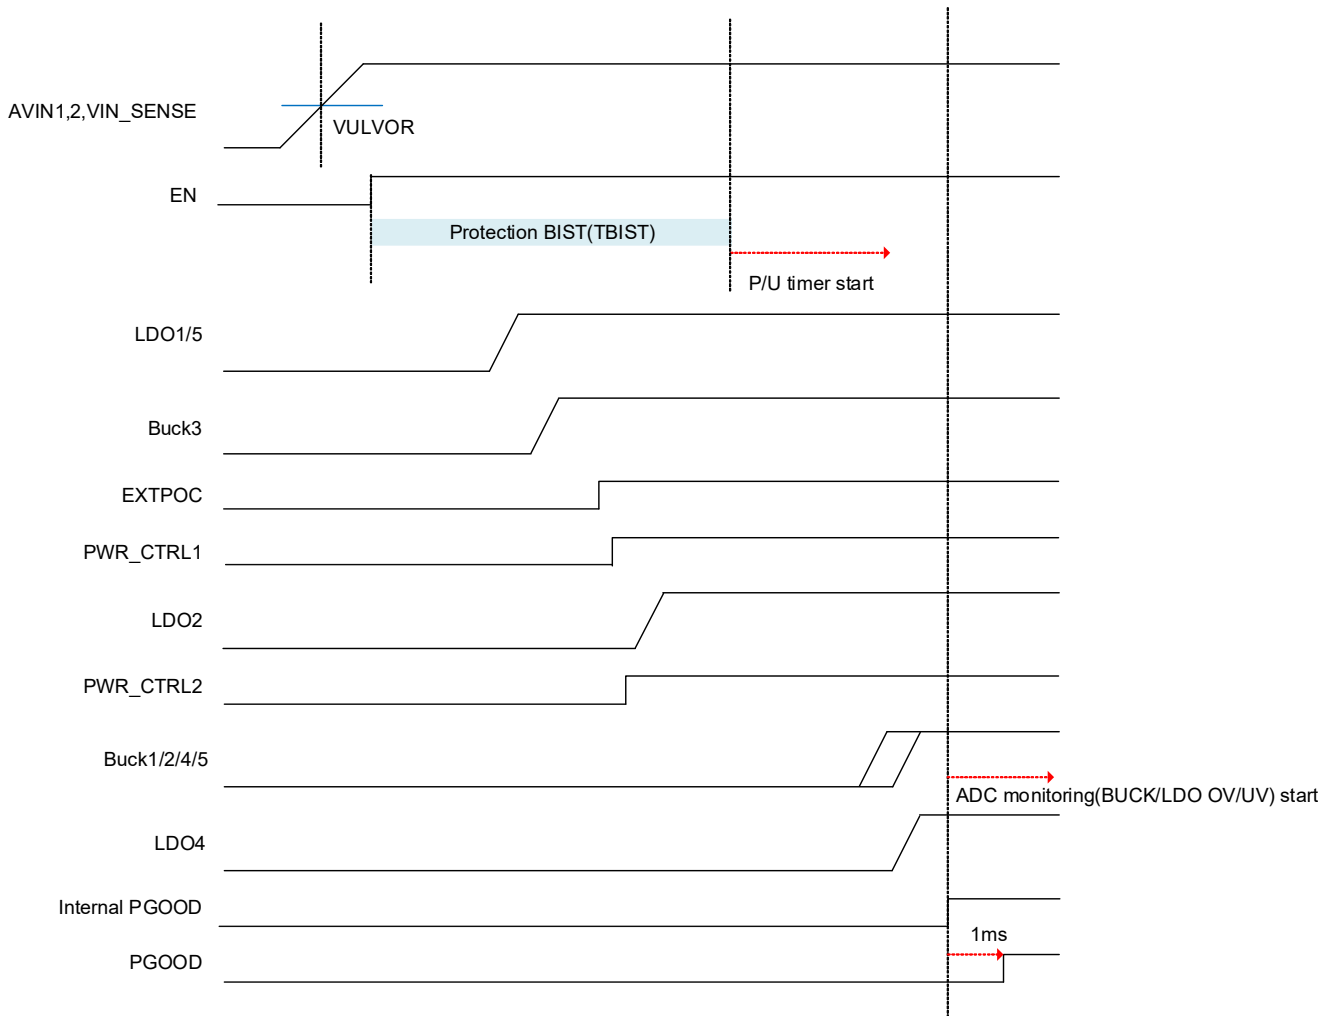
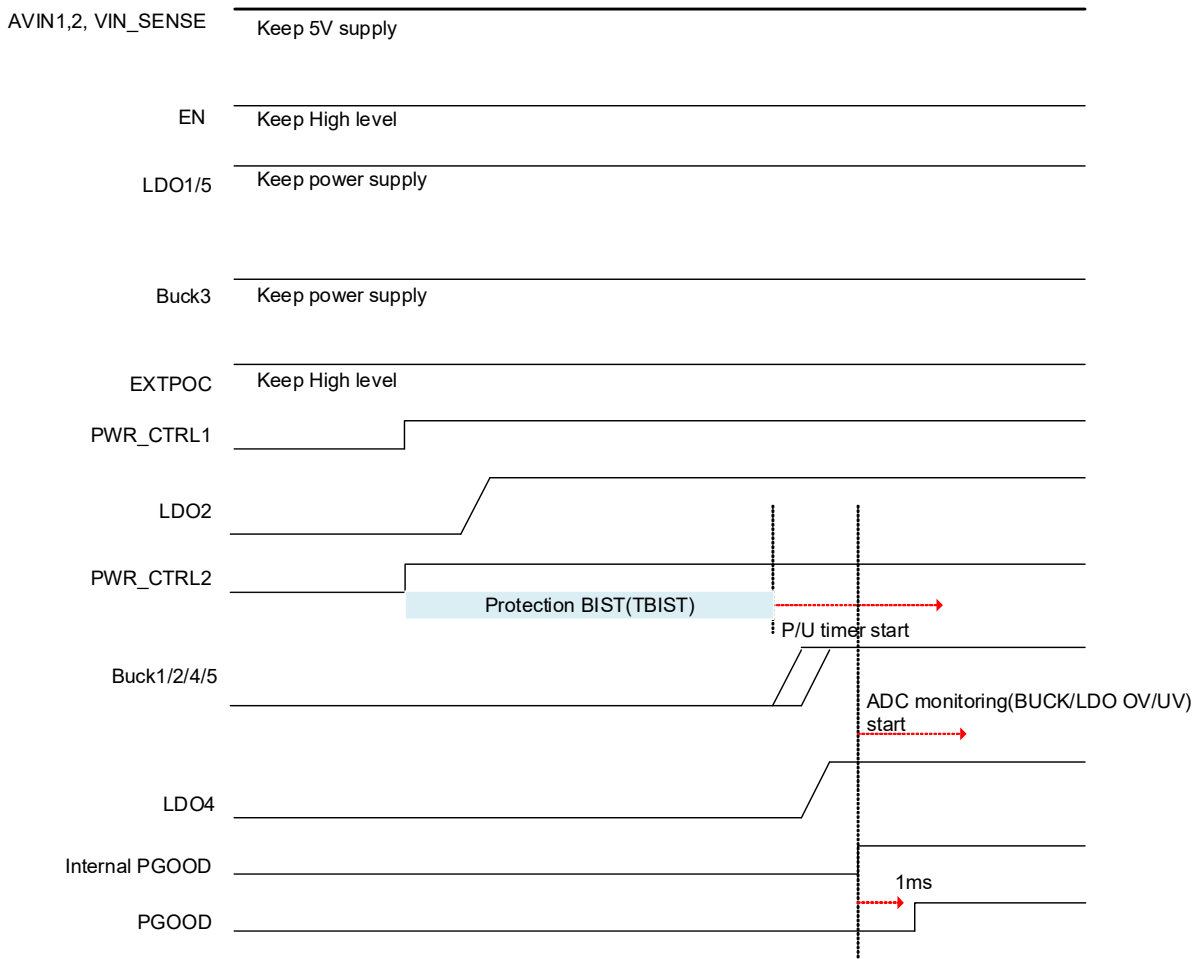

Figure 3. Power Off to Full Run (Cold Start)
Figure 4. DeepStop to Full Run (Warm Start)
- To set On delay and slew rate of each Buck and LDO so that the internal PGOOD goes High after a protection BIST(TBIST). The protection BIST starts with EN at cold start or with PWR_CTL2 at warm start (see Figure 3 and Figure 4).